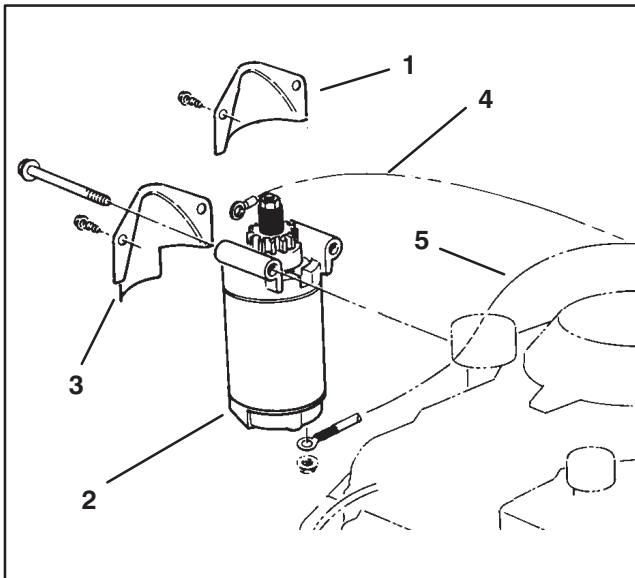

Figure 1
INSTALL STARTER MOTOR (Fig. 1)
1. Remove (2) screws securing starter cover to right side of engine. Retain screws but cover may be discarded (Fig. 1).
2. Mount starter motor and the large ring terminal end of 14" black cable to engine with (2) flange head screws and spacers. Ring terminal to be mounted on left flange head screw, positioned between screw head and starter motor (Fig. 1).
3. Install new starter cover to engine with (2) screws previously removed (Fig. 1).